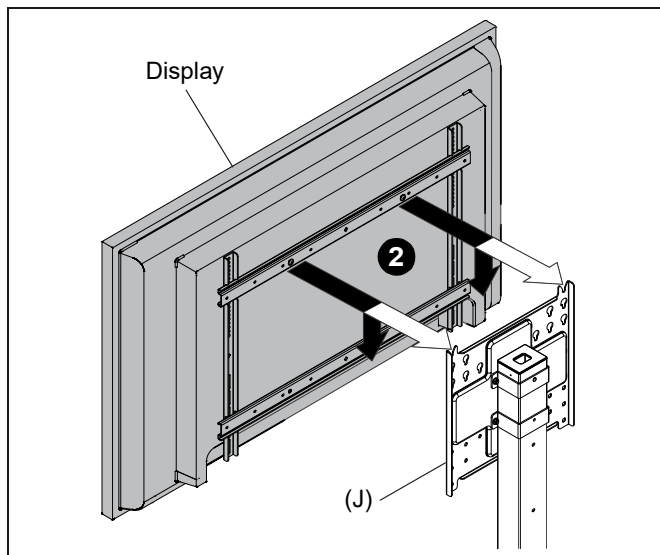

Figure 12
2. While supporting both sides of display, align two 5/16-18 x 5/8" screws (AD) installed in upper horizontal interface (L) with two mounting holes in the face plate assembly (J). (See Figure 12)